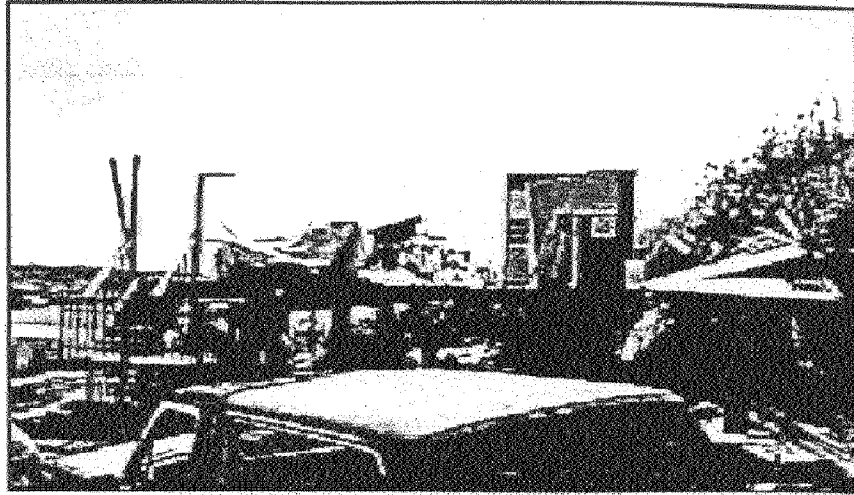
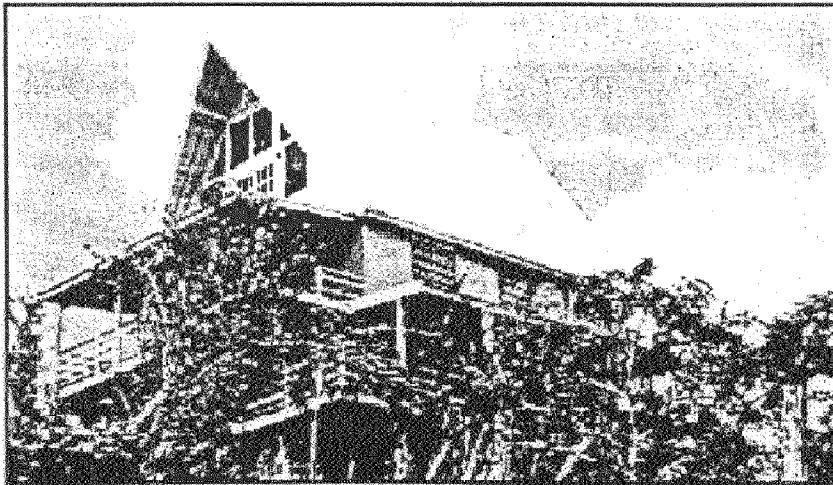

Figure 17. This wooden house was completely destroyed during Hurricane Georges in Puerto Rico, 1998.
Figure 18. This wooden house stood up to the strong winds generated during Hurricane Georges in Puerto Rico, 1998.
It is important to realize that wooden construction is perfectly feasible as long as (1) the wood is treated with chemicals against insects, (2) the wood is protected with a waterproof product, (3) the elements are adequately anchored (preferably with screws), (4) hurricane clips are utilized to secure the structural elements, and (5) a continuous load path is provided. However, wooden structures require a great deal of attention during design and construction, as well as meticulous maintenance once they have been built. Figures 17 and 18 show two houses built out of wood and exposed to hurricane winds of similar intensities; one of them did not resist the high wind pressures (Figure 17), while the other one suffered no damage at all (Figure 18).